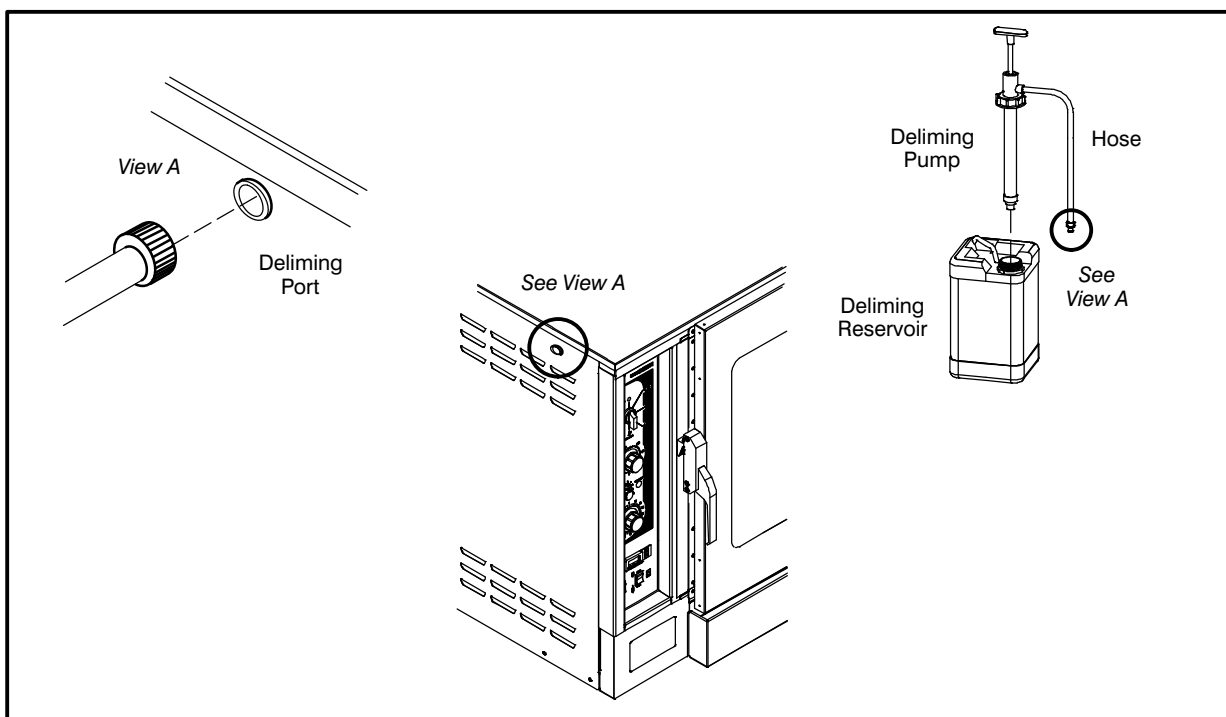

Figure 20
2. Remove the cap from the appliance. Attach the pump hose end to the deliming port. See Figure 20.
3. Pump in the deliming agent into the appliance by pulling up fully then pushing down on the pump handle. Each up then down action equals (1) One pump. Use the following table.